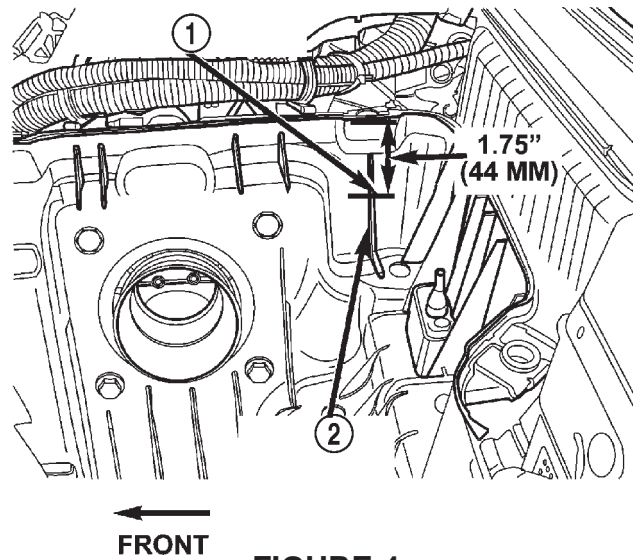

FIGURE 4
7. Mark the inside of the air cleaner 1.75" (44 mm) down from the top next to the rear edge of the support rib (Figure 4).
8. Drill a 1/8" (1.6 mm) diameter pilot hole in the right side of the air cleaner at the location marked above (Figure 4).